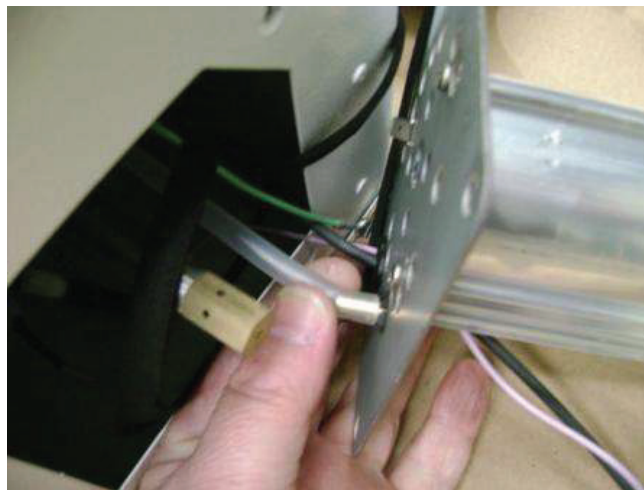

Figure 25. Burner Assembly Connections
5. Disconnect ignition, flame probe, and ground leads and pressure switch silicone tubes (see Figure 25) as necessary.